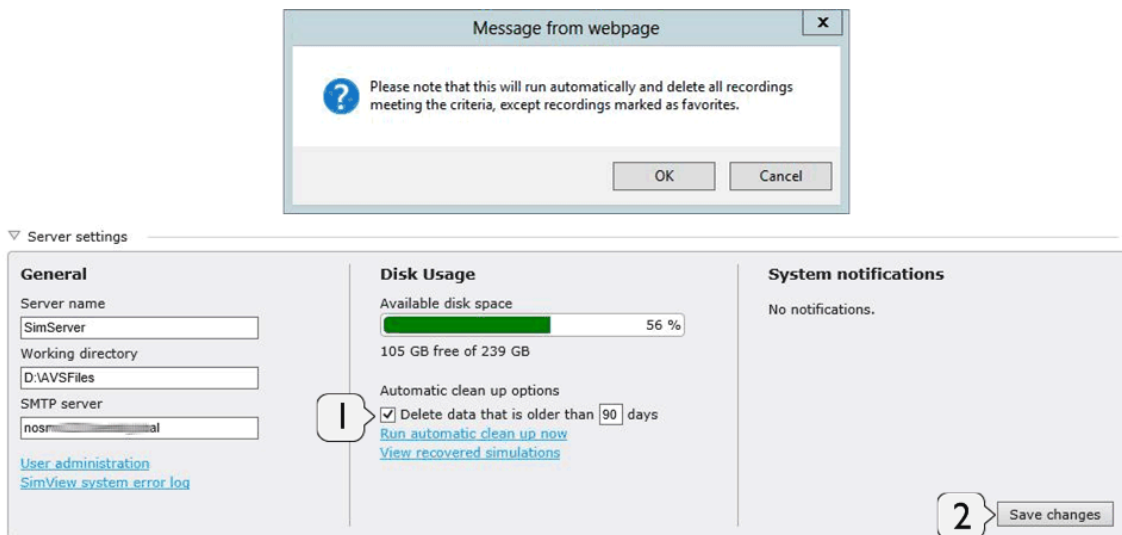

Figure 40
The automatic clean-up for saved simulation is enabled on the server settings by entering the number of days that simulation have to be older than in order to be deleted (1), and then click in the check to enable the feature box and save changes (2), you will get at warning to alert you about the automatic deletion of files. (See Figure 40)